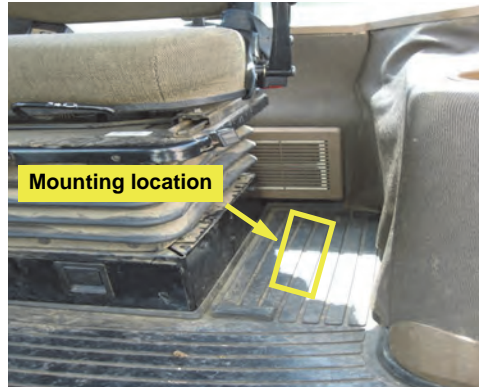

Figure 1a: Mounting location
- a. Locate the ECU mounting location to the left of the driver's seat on the cab floor (Figure 1a).